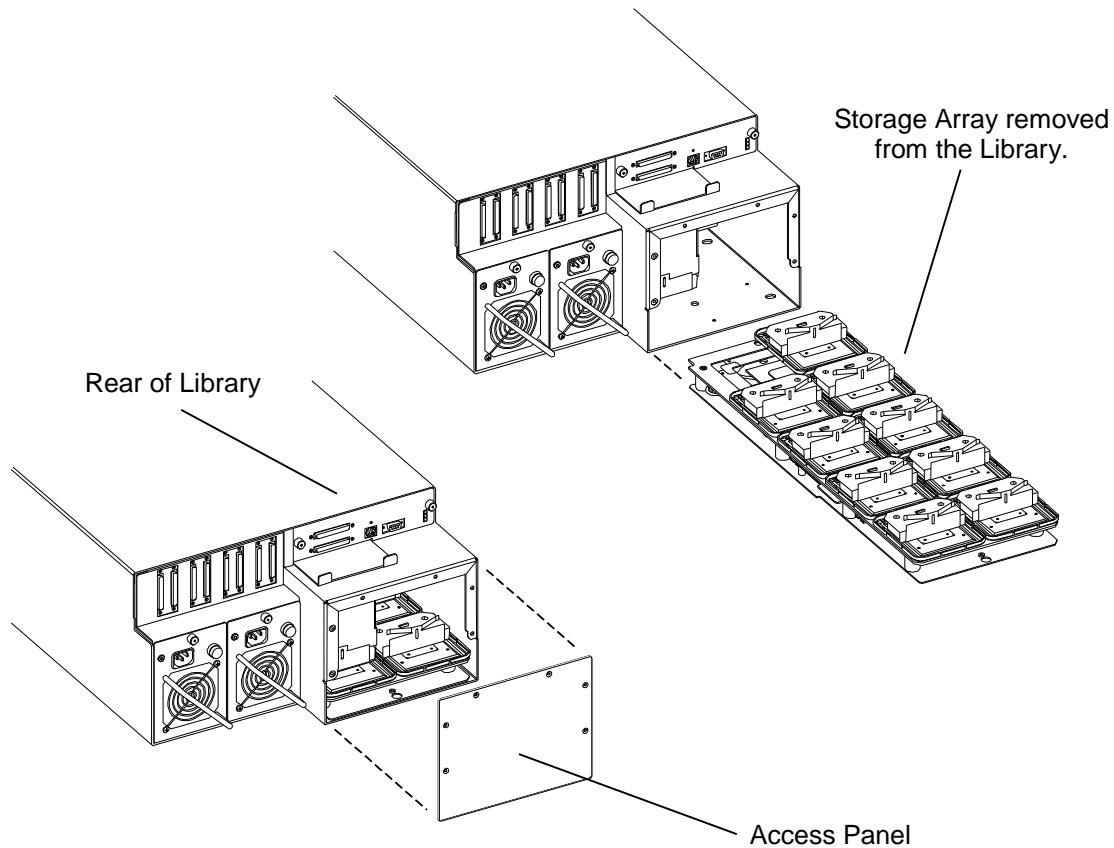

Figure 7-15 Access Panel on Rear of the Library and Storage Array Removed from Library
5. Using a No. 2 Phillips screwdriver, carefully remove the six screws that secure the access panel to the rear of the library. See Figure 7-15.
8. Set the RLS chassis upright. Grasp the front and the rear of the Storage Array Assembly and gently lift it up and then out through the rear of the chassis. See Figure 7-15.
8. Align the Access Panels holes with the mounting screw holes in the rear of the RLS, then reinstall all six of the Access Panels mounting screws. See Figure 7-15.